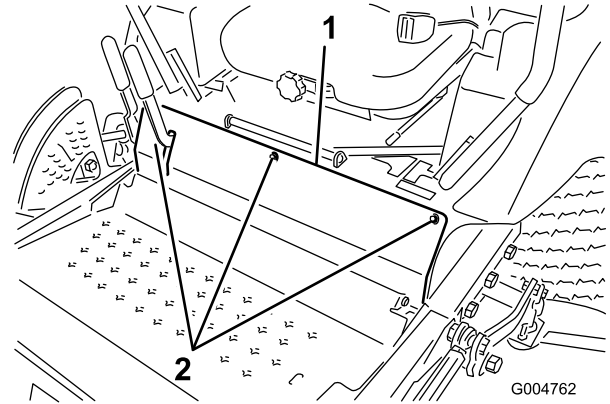

Figure 58
- Remove the bolts securing the front panel and remove the panel (Figure 58).